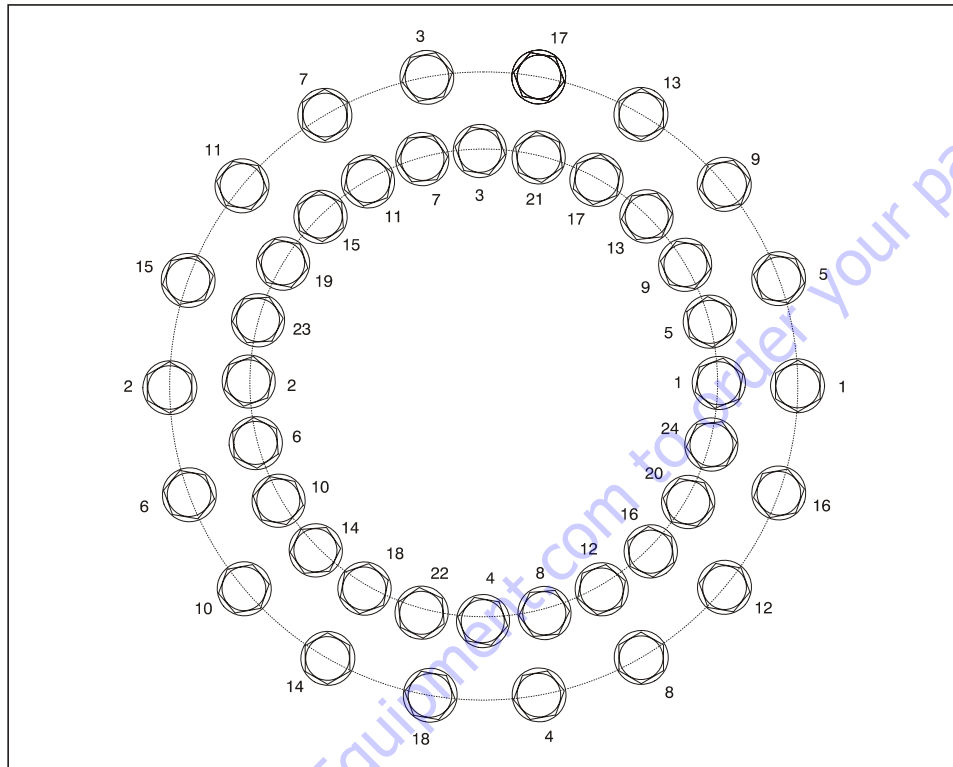

Figure 3-15. Swing Bearing Torquing Sequence
- b. Line up high spot (blue) of bearing with center tooth of worm gear. Set backlash to 0.008 - 0.010 inch (0.20 - 0.25 mm). Tighten capscrews as shown in Figure 3-15., Swing Bearing Torquing Sequence.
- g. Following the torque sequence diagram shown in Figure 3-15., tighten the bolts to an initial torque of 130 ft. lbs. (175 Nm). Then following the same sequence, tighten to a final torque of 190 ft. lbs. (260 Nm).
- 3.** Following the torque sequence shown in Figure 3-15., tighten the bolts to an initial torque of 130 ft. lbs. (175 Nm). Then following the same sequence, tighten the bolts to 190 ft. lbs (260 Nm).